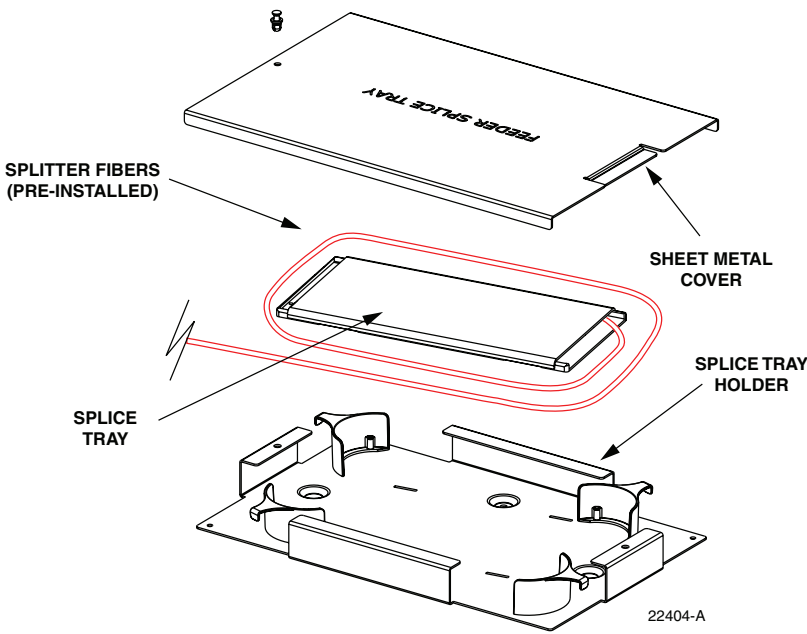

Figure 23. Feeder Splice Tray Assembly
2. Lift the sheet metal cover away from the splice tray holder as shown in Figure 23.